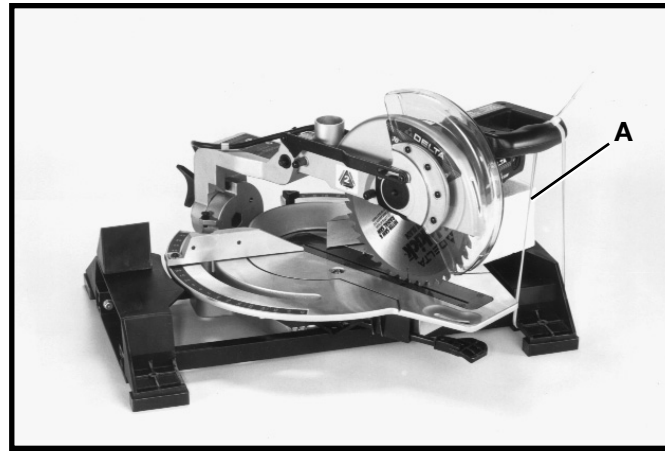

Fig. 12
2. Carefully remove cable tie (A) Fig. 12, which is holding the cuttinghead in the down position.